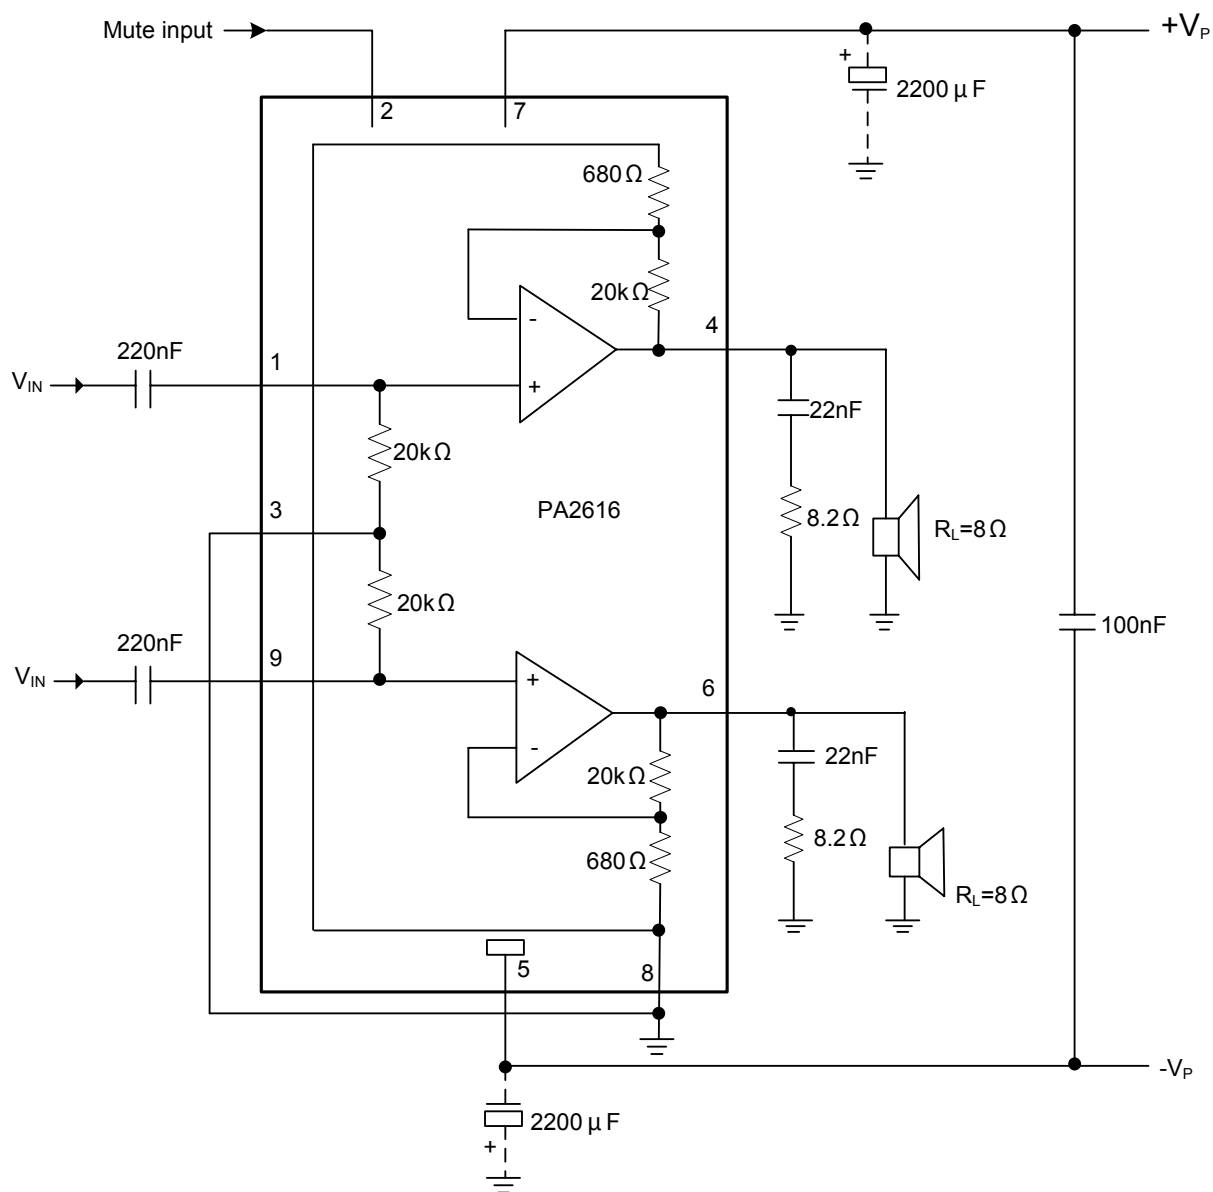

Fig. 1 Test and Application Circuit with Symmetrical Power Supply
Note: 1. $V_P = \pm 16\text{ V}$; $R_L = 8\text{ }\Omega$; $T_a = 25\text{ }^\circ\text{C}$; $f = 1\text{ kHz}$; symmetrical power supply $I_{MUTE} < 30\text{ }\mu\text{A}$. See Fig. 1
5. $\pm V_P = 4\text{ V}$; $R_L = 8\text{ }\Omega$; $T_a = 25\text{ }^\circ\text{C}$; $f = 1\text{ kHz}$; symmetrical power supply. See Fig.1